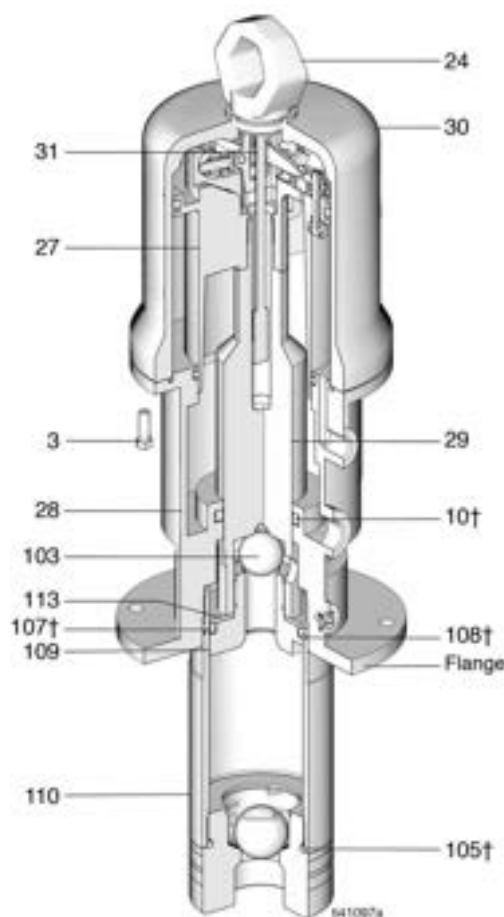

FIG. 3
Refer to FIG. 3 for the following instructions.
10. Grease and install the new o-rings (19\*, 20\*) on the piston assembly (27) and in the groove in the air motor base (28).
11. Grease and reinstall the pump seal (10†) in the groove in the air motor base (28).
12. Slide the piston rod (29) down through the packing, and lower the piston assembly (27) into the air motor base (28).
13. Clamp the air motor base (28) in a vise horizontally by closing the vise jaws on the flange.
14. Install the u-cup packing (107†) with the lips facing up, and place the piston washer (113) on the piston/valve seat (109). Make sure that the lips of the u-cup packing face up (FIG. 3).
15. Place the piston ball (103) in the piston rod (29).
16. Clean the threads of the piston/valve seat. Apply thread locking compound to the threads (109), and thread the assembly from step 14. onto the piston rod (29).
17. Clamp the flats of the piston/valve seat (109) in a vise. Using a crow's foot wrench, torque the piston rod (29) to the piston valve seat to 40 to 60 ft.-lbs (54 to 81 N•m).
18. Clamp the air motor base (28) in a vise horizontally by closing the vise jaws on the flange.
19. Use a strap wrench to screw the displacement pump cylinder (110) to the air motor base (28). Using a crow's foot wrench, and torque to 95 to 105 ft.-lbs (129 to 142 N•m).